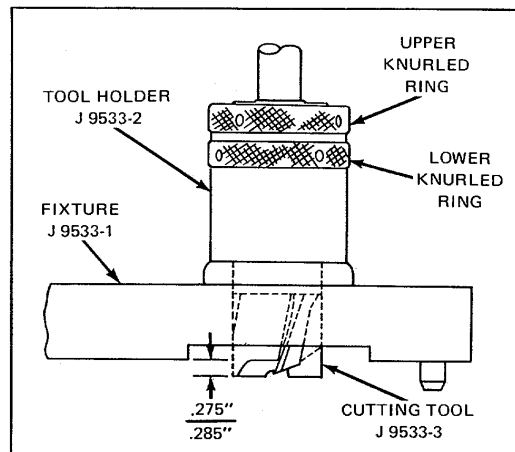

Figure 1. Adjustment of Tool Holder
- a. Insert rough cutting tool J 9533-3 in the tool holder as shown in Fig. 1.